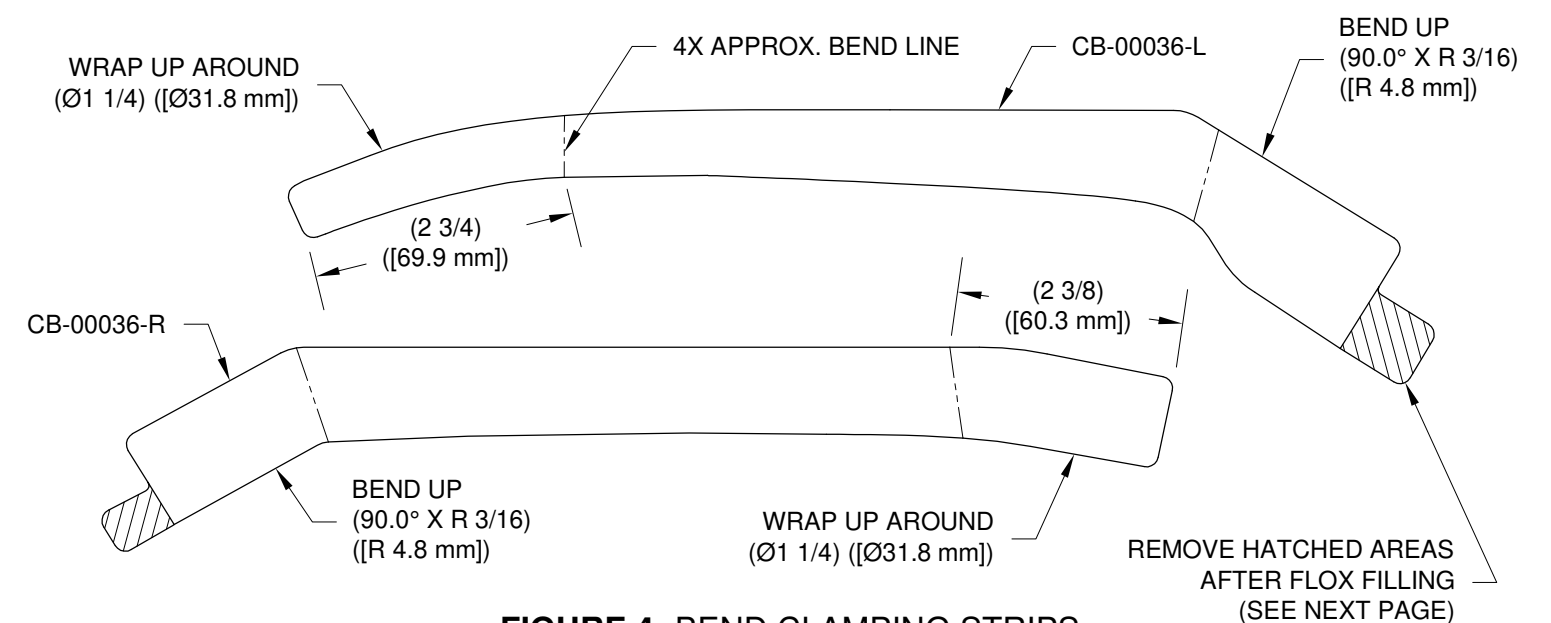
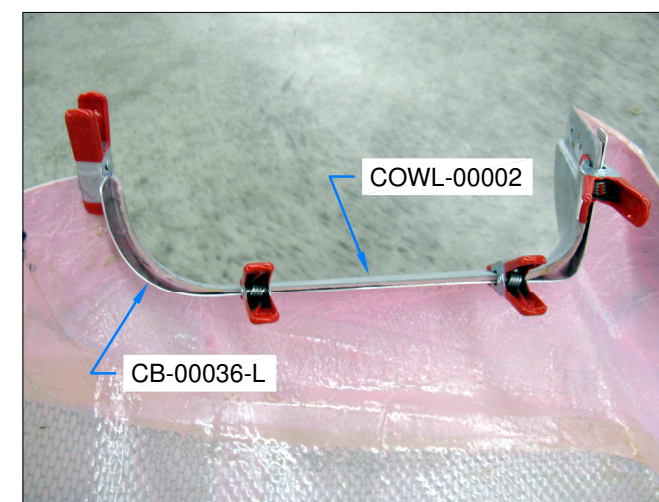

FIGURE 4: BEND CLAMPING STRIPS
FIGURE 5: CLAMPING STRIP - LEFT
Step 5: Hand-form the CB-00036-L & -R Clamping Strips to match the shape of the bottom cowl inlets as shown in Figure 4, Figure 5, and Figure 6.
Step 9: Clamp the clamping strips to the bottom cowl as shown in Figure 5 and Figure 6.